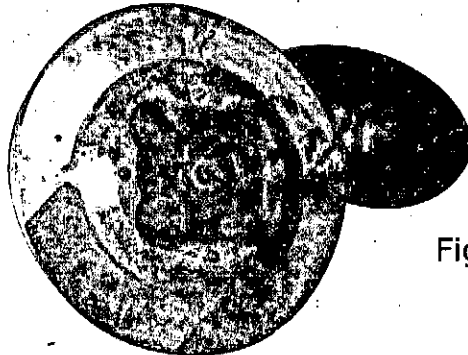

Fig.6
1. To assemble the light to the fan the bottom housing has to be removed from the fan (see fig 6) by rotating anticlockwise.